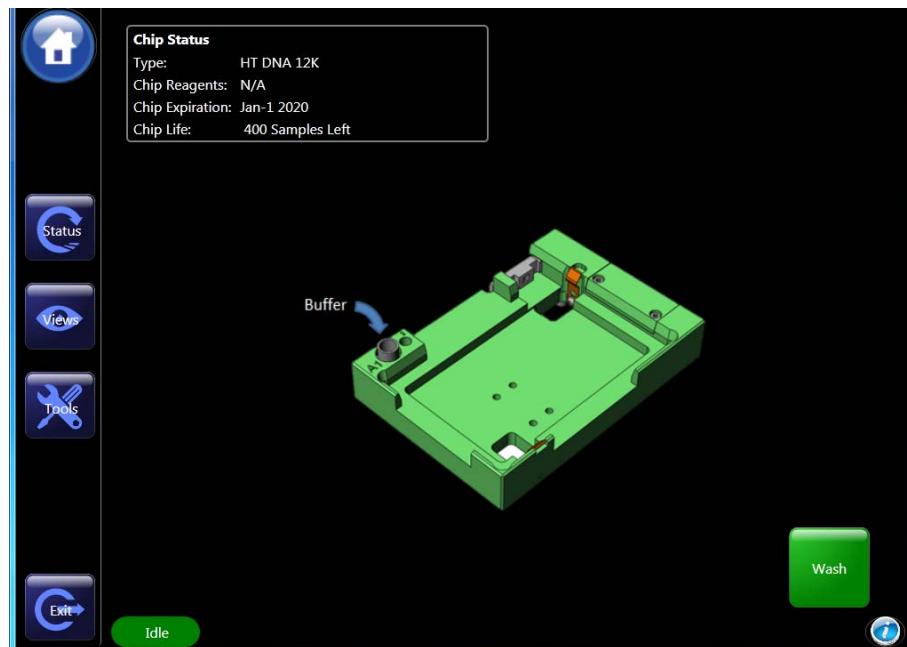

Figure 12. Wash screen.
- 6 Touch the *Wash* button in the upper right corner in the *Home* Screen. The *Wash* screen opens (Figure 12).